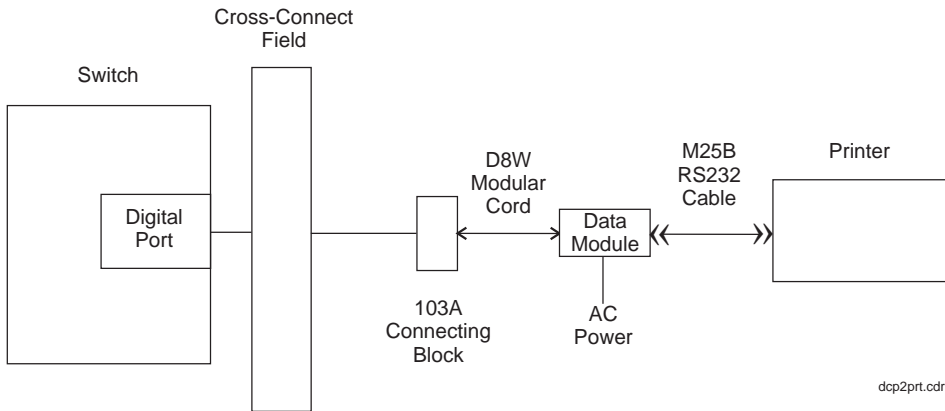

Figure 19. Printer Connections Using a Data Module
Figure 19 shows how to connect a journal/schedule printer, a PMS log printer, or a system printer to the switch using a data module.
5. Reconnect the unit as shown in Figure 19.
6. Reconnect the unit as shown in Figure 19.